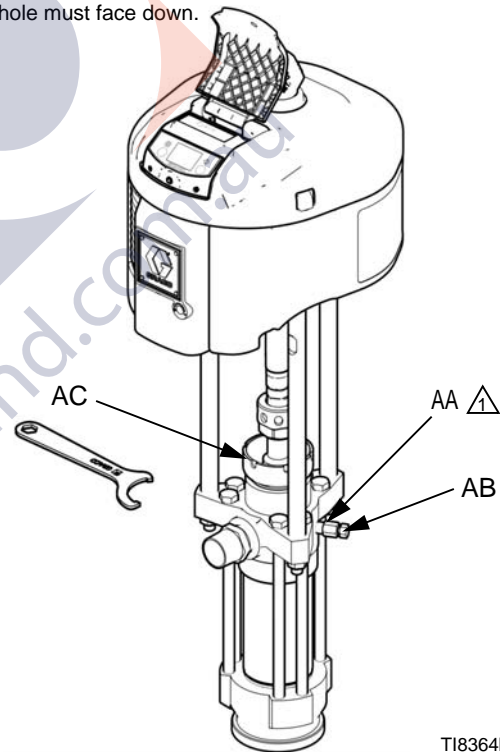

FIG. 3. Bleeder Valve and Wet-Cup
- If the pump fails to prime properly, open the bleeder valve plug (AB) slightly. Use the bleed hole as a priming valve until the fluid appears at the hole. See FIG. 3. Close the plug (AB).
See FIG. 3. Check the wet-cup (AC) daily. Keep the wet-cup 1/3 filled with Graco Throat Seal Liquid (TSL) or compatible solvent.